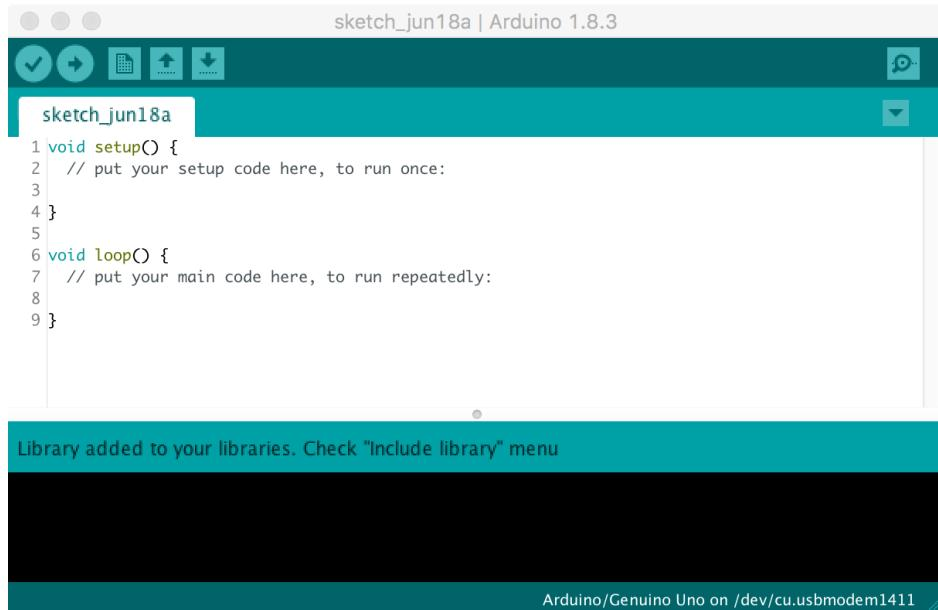

Figure 2.1: Arduino IDE
2. Launch the Arduino IDE (figure 2.1)